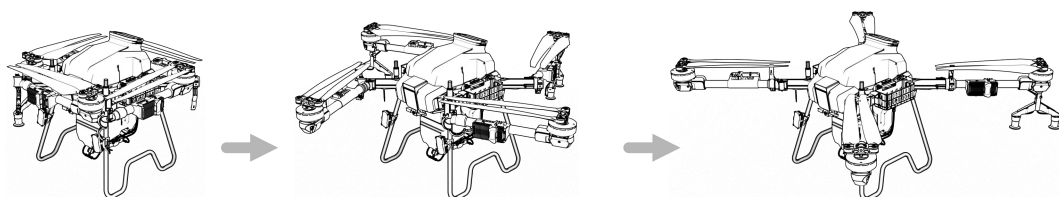

Figure 1-33 Arm Unfolding
**Step3:** Unfold the arms. See Figure 1-33.